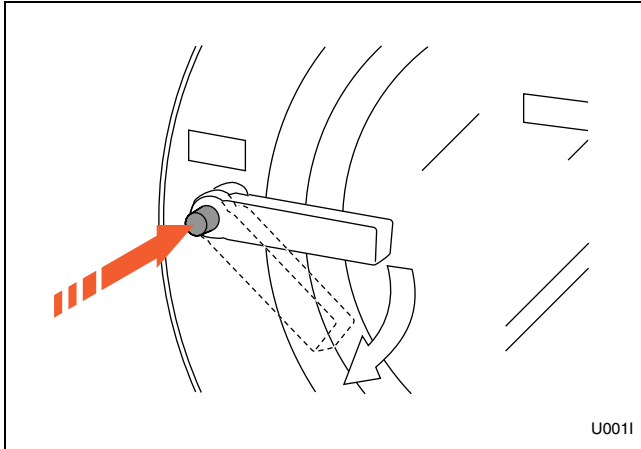
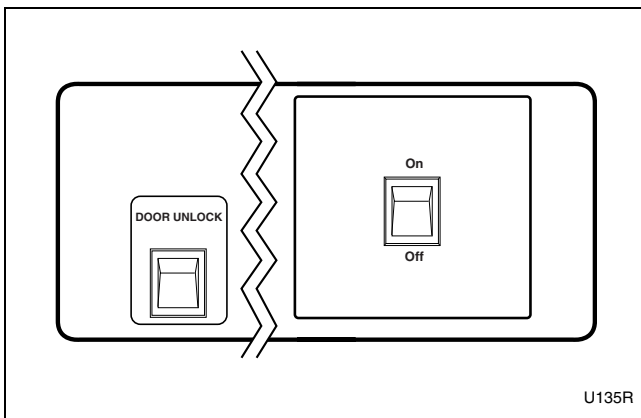

Figure 3
Figure 4
**For non-coin models:** Turn on the On/Off switch on the front panel to the On position. Refer to *Figure 4*.
2. Push button and turn handle clockwise to open. Refer to *Figure 3*.
**For non-coin models:** Press and hold the DOOR UNLOCK button on the left side of the control panel while performing the above step. Refer to *Figure 3* and *Figure 4*.